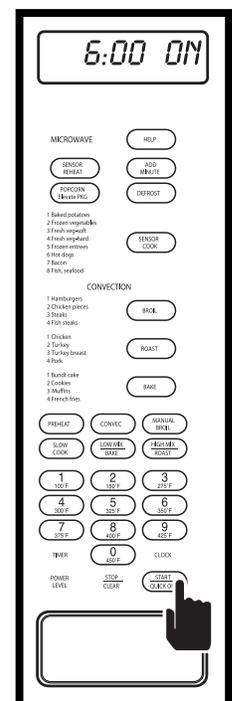

Figure 3-50. Press QUICK ON/START Key
6. Press QUICK ON/START key and start time will appear on display along with the word "ON" (See Figure 3-50). The microwave will now be energized at the time of day specified, for amount of time specified and at power level specified. At the end of the cooking time, "END" will flash on display and alarm will beep.